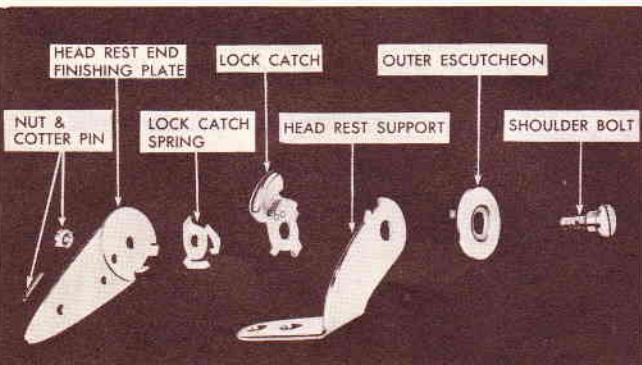

Fig. 6 Head Rest Outer Support and Lock Assembly
3. Remove cotter pin and the nut which secures component parts of outer support and lock assembly and/or inner support assembly (See Figs. 6 and 7). Disassemble the entire assembly.
4. To assemble reclining seat back head rest outer support and lock assembly and/or inner support assembly, reverse removal procedure. Assemble component parts in order shown on Figs. 6 or 7.